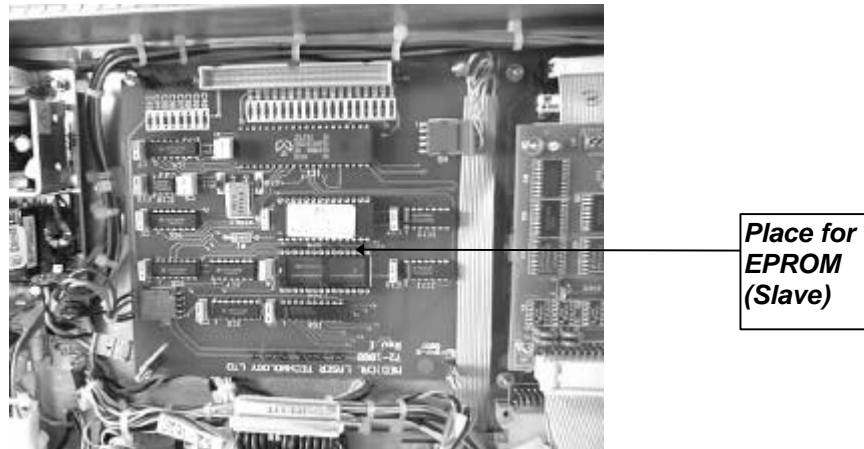

Fig. 19: PCB
Fig. 19 shows the lower board with the EPROM (Slave) to be replaced.
- ⇒ Replace the EPROM, connect and refit the upper board (Fig. 19).